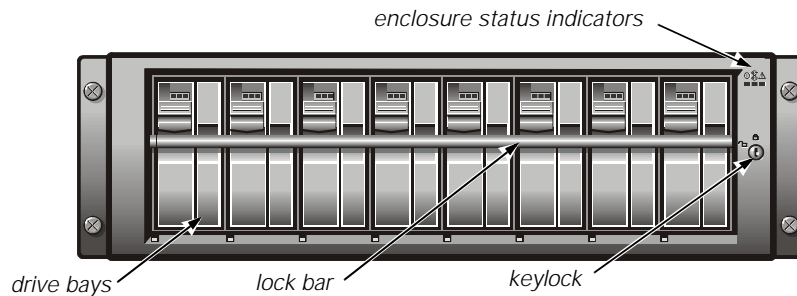

Figure 1. Keylock and Swing-out Lock Bar (Silver)
2. For a storage system with the silver, swing-out lock bar, using your fingertips, tap up on the lock bar. The lock bar easily swings out and down, just below the level of the drive bays (see Figure 1).